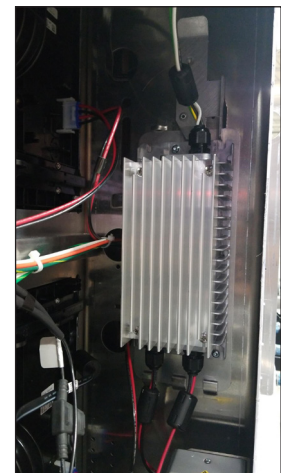

Figure 23: Power Supply Mounted to Upright
2. Disconnect the power cables from the power supply to the modules. Refer to **Figure 23**.